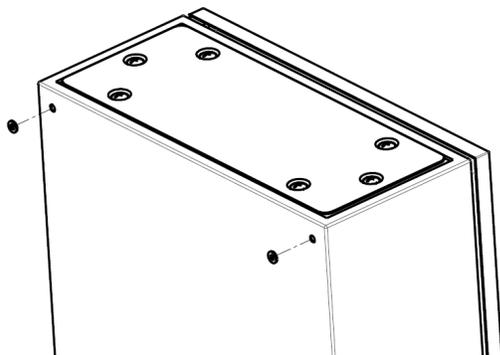

Figure 1
- Use supplied washers to maintain IP rating. Position to rear of enclosure prior to fixing to surface. (see figure 1) Use all four washers.